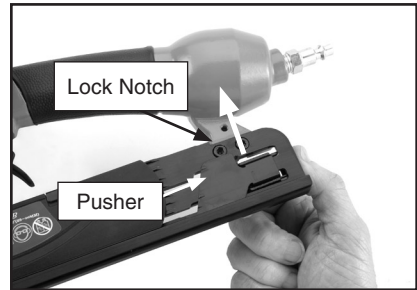

Figure 4. Lifting the pusher into the lock notch.
3. Lift the pusher upward toward the nailer body until the pusher latches into the lock notch as shown in **Figure 4**.